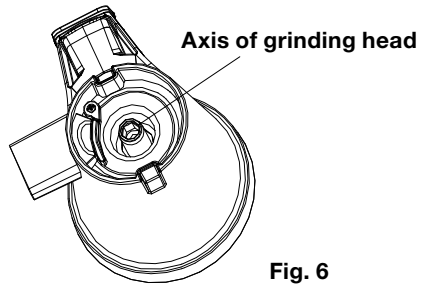

Fig. 6
4. Detach the filter attachment and grinding head from the jar. For easy disassembly of the grinder head, push the grinder axis upwards (see Fig.6). Ensure that one hand holds the jar and the other holds the grinder head.